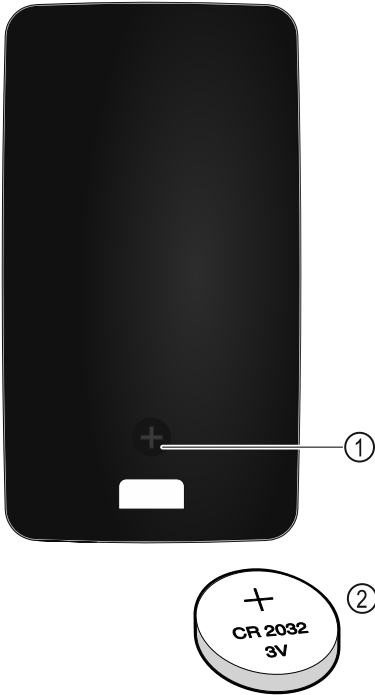

Fig. 230
The remote control is powered by a 3V CR 2032 battery Fig. 230 (2) available from specialist retailers.
- Undo screw Fig. 230 (1) on the back of the remote control.